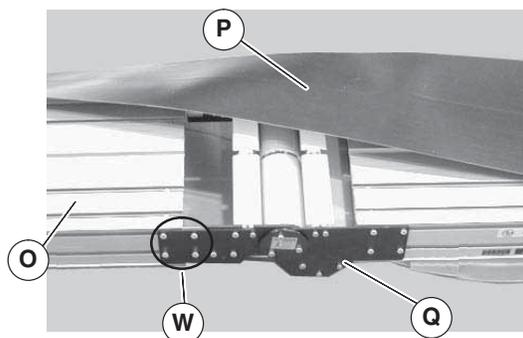

Figure 7
- Roll out conveyor belt (Figure 7, item P). Loosen (4) screws (W) on both sides of knuckle (Q). Slide frame (O) into knuckle (Q). Tighten screws (W) to 60 in-lb (7 N-m) on both sides of conveyor.